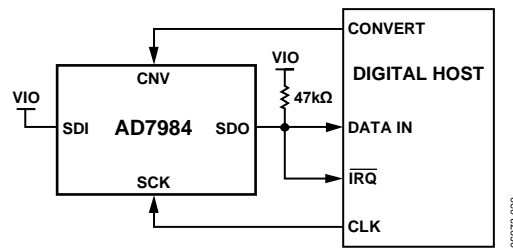
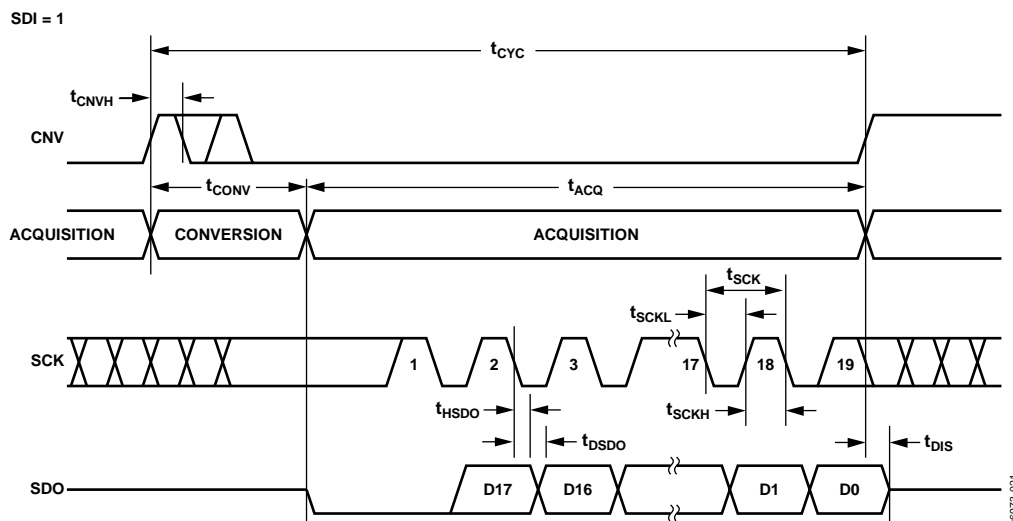
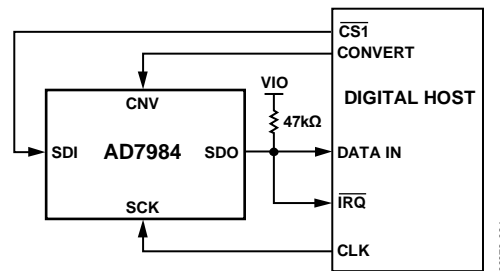
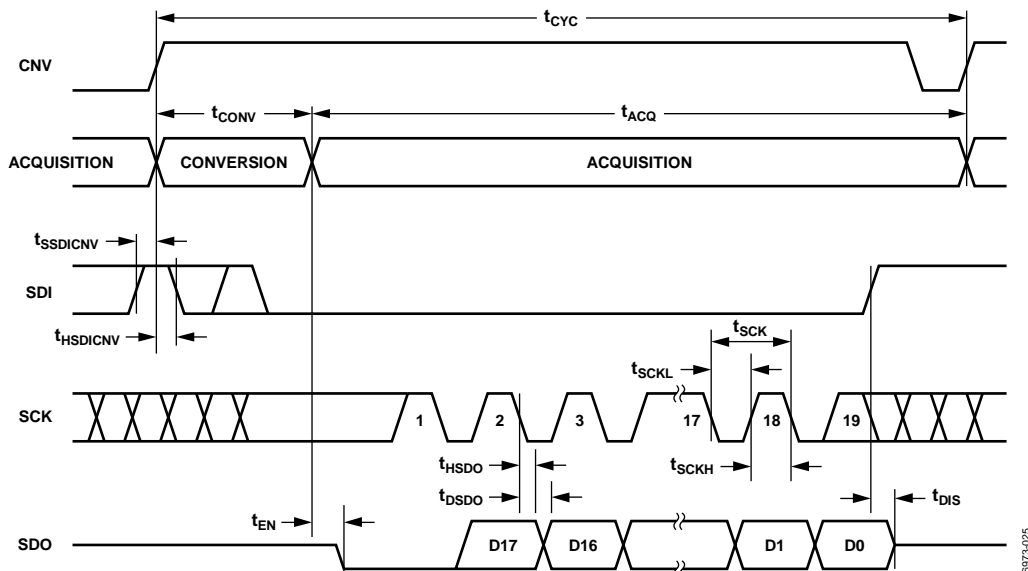

Figure 30. $\overline{\text{CS}}$ Mode, 3-Wire with Busy Indicator Connection Diagram (SDI High)
Figure 31. $\overline{\text{CS}}$ Mode, 3-Wire with Busy Indicator Serial Interface Timing (SDI High)
Figure 34. CS Mode, 4-Wire with Busy Indicator Connection Diagram
Figure 35. CS Mode, 4-Wire with Busy Indicator Serial Interface Timing
- In $\overline{\text{CS}}$ mode if CNV or SDI is low when the ADC conversion ends (see Figure 31 and Figure 35).
The connection diagram is shown in Figure 30, and the corresponding timing is given in Figure 31.
The connection diagram is shown in Figure 34, and the corresponding timing is given in Figure 35.